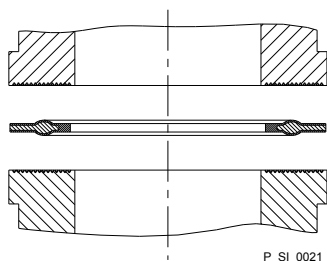

Fig. 11: Moulded composite seals with corrugated insert
- The pump is supplied with PTFE moulded composite seals with a flare, which are used for the pump connectors, which seal the connectors between grooved pump valves and ProMinent grooved inserts - see Fig. 11.